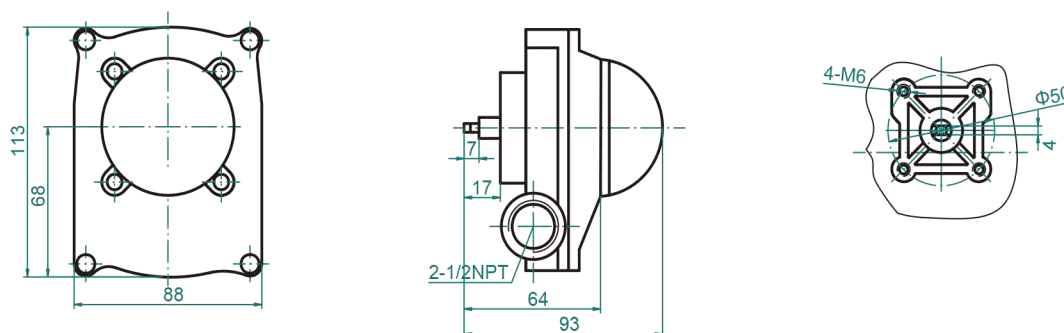

Fig.561M Multi-function position switch box
page 4	Fig.561M Multi-function position switch box
Model	Fig.561M
- Only adjustable bracket available for Fig.561M.